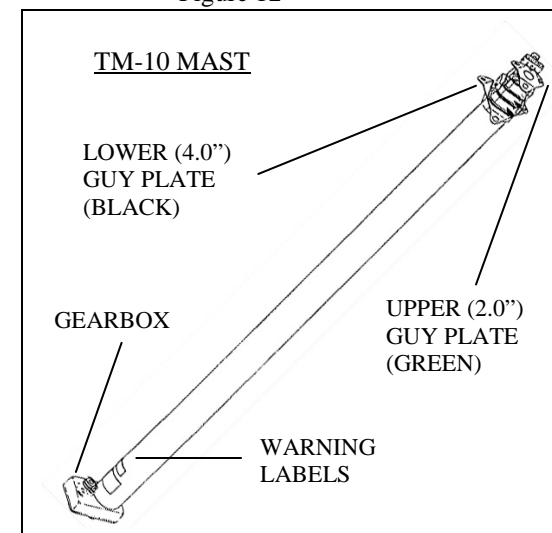
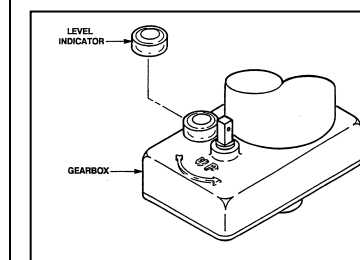

Figure 14
Figure 15
20. Using the bubble level, make final adjustments to the guy lines to set the mast vertical. The bubble must be completely inside the inner circle on the indicator before the mast is extended. See Figs. 14 and. 15.
21. Place the hand crank onto the gearbox and crank counterclockwise to extend the mast. Maintain a steady, even cranking speed. In the event of a jam, stop and crank in the reverse direction approximately five turns, then retry. Cranking more slowly will help to clear a jam. See Fig 14 and Fig. 15.
3. Place the hand crank onto the gearbox and crank clockwise to retract the mast. Maintain a steady, even cranking speed. In the event of a jam, stop and crank in the reverse direction approximately five turns, then retry. Cranking more slowly will help to clear a jam. (Ref. Fig. 15)
- (h) Verify that the bubble level is attached to the gearbox and is operational. (Ref. Fig. 15)